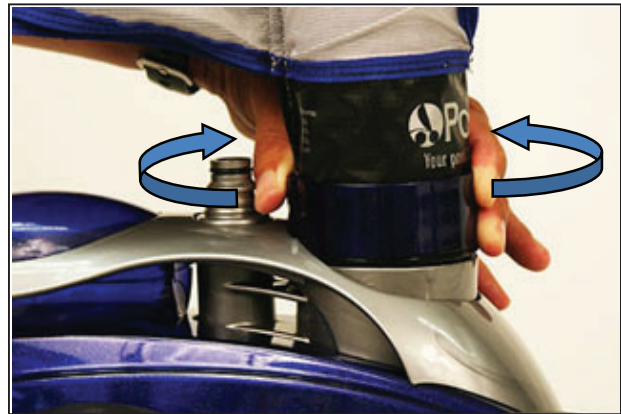

Figure 2. Remove cleaner bag
3. Twist collar to remove the cleaner bag (Figure 2).